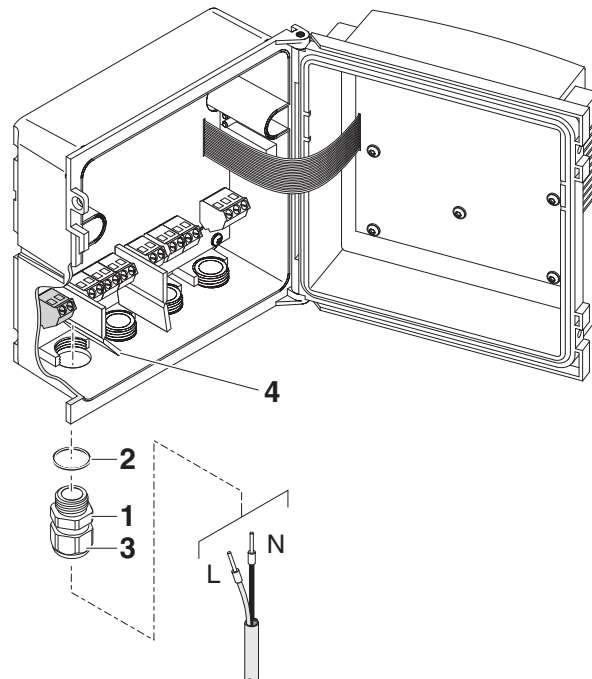

Fig. 3-12 Inserting the supply line.
6	Screw a cable gland (pos. 1 in Fig. 3-12) with sealing ring (pos. 2) into the enclosure below the power supply connection.
| 10 | Tighten the cap nut (pos. 3 in Fig. 3-12).  |